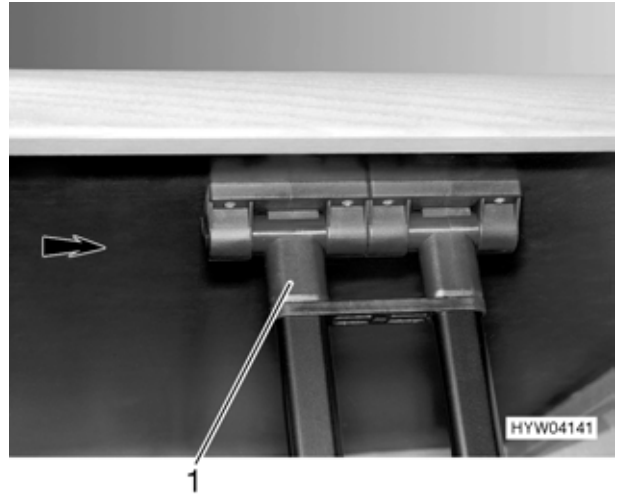

Fig. 63 Leg of the dinette table (variant 1)
- Push the holding device (Fig. 63,1) in the direction of the arrow, and fold the table leg in.